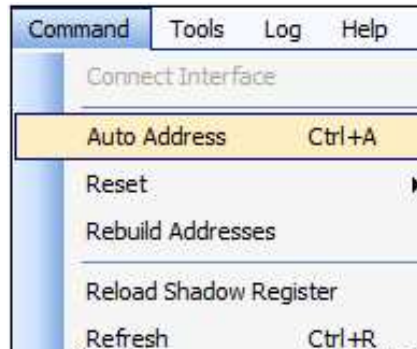

Figure 24. Command—Auto Address Menu Item
5. Start the WinGUI user interface software supplied with the EVM that has been previously installed during the software installation process (see Figure 24).
The first step in communicating with the bq76PL536A-Q1 device is to set a unique address for each device in the stack. This setup is required even if the user is only using a single device. As Figure 24 shows, navigate to *Command* → *Auto Address* in the menu bar (shortcut key CTRL + A). This action implements a software process, which interrogates the stack of bq76PL536A-Q1 devices, finds all available devices, and assigns a unique address to each device beginning with address 0x01. The 0x00 address is reserved for unaddressed devices.
2. Start the WinGUI as the following Figure 24 shows.